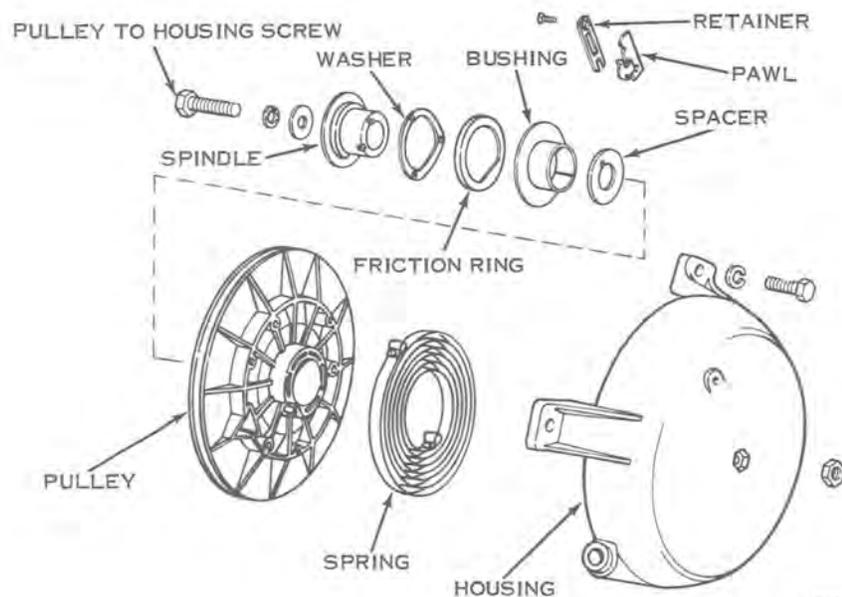

Figure 8-2
- e. Remove screw (pulley to housing) and remove all components of starter pulley spindle assembly. See Figure 8-2.